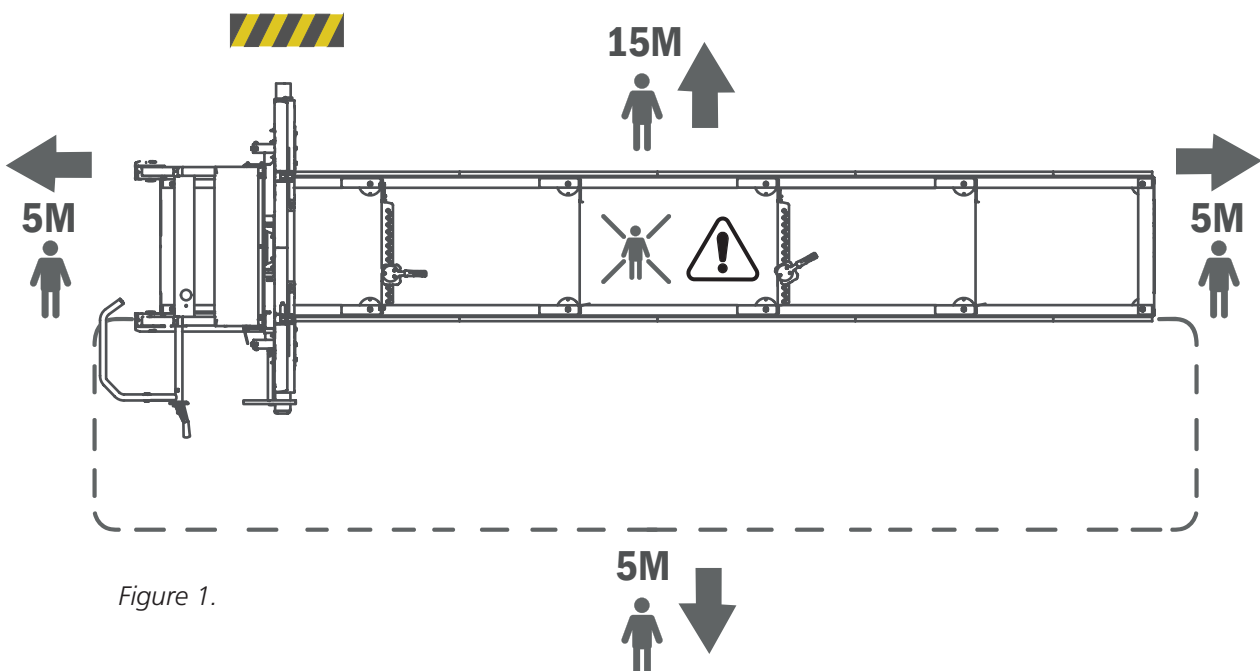

Figure 1.
**!** Read the warning instructions for the sawmill in the machine's main manual, 0458-395-5300, before using the machine. Pay particular attention to the safety distance for persons other than the operator [Figure 1] as the machine's automation increases the risk of injury.